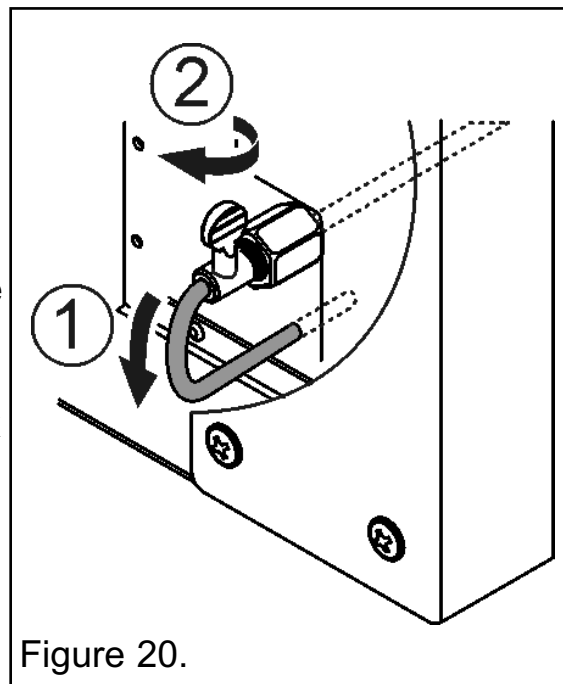

Figure 20.
10. Fit a cable retainer over the bottom end of each cable (See figure 20).
11. Pull each cable taut. Push the cable retainers hard up against the convection box flanges. Tighten the screws in the retainers so that they clamp the cables in position. Apply tension to the cables by turning the hexagonal adjusters by hand (See figure 20).
13. Push the free length of the cables through the adjacent holes in the convection box so that they are available to allow easy removal and refitting of the appliance during subsequent service calls (See figure 20).